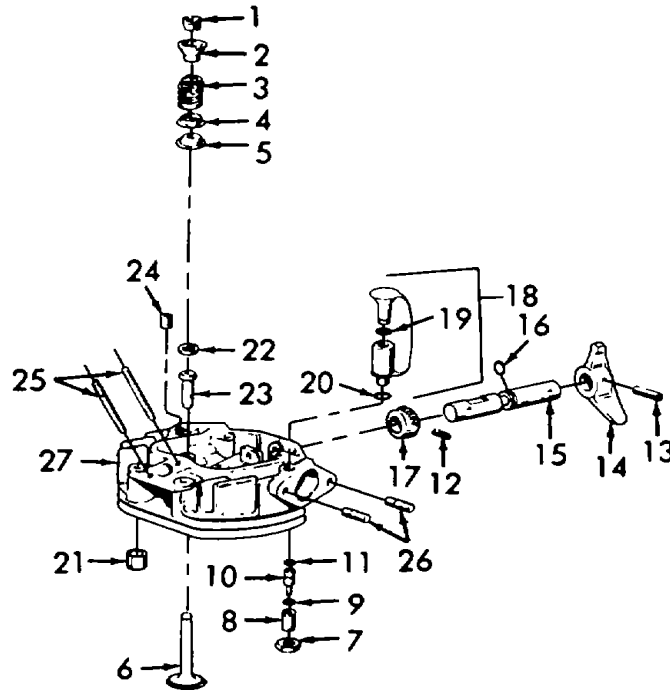

Figure 6-1. Cylinder Head Disassembly.
a. Disassembly. (Refer to figure 6-1).
- (1) Using a valve spring compressor, depress valve spring and remove collet (1).
- (2) Remove cup (2), spring (3), washer (4), cap (5), and valve (6). Remove other valve in the same manner.
- (3) Remove nut (7), threaded pin (8), ten plates (9), pin (10), and packing (11). Discard packing (11).
- (4) Remove pin (12), pin (13), lever (14), shaft (15), packing (16) and pinion (17). Discard packing (16).
- (5) Remove oil fill device (18), packing (19), and packing (20). Discard packings (19 and 20).
- (6) Remove two pins (21) and two spacer rings (22) and press out two valve guides (23).
- (7) Remove closing screw (24).
- (8) Remove two studs (25) from cylinder head (27).
- (9) Remove two studs (26) from cylinder head (27).